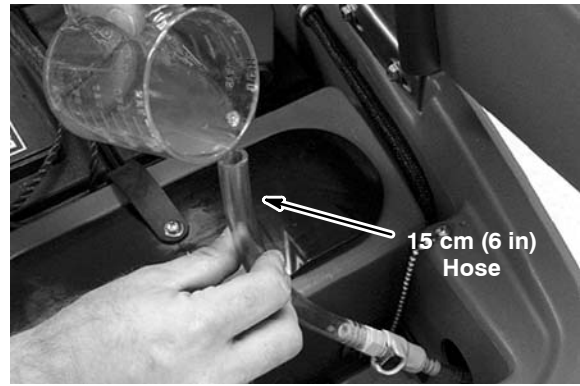

FIG. 61
3. Route the supply hose back up to the FaST-PAK compartment. Connect the 15 cm (6.0 in) hose (purchased part) to the valve coupling and pour RV anti-freeze into the hose until full (Figure 61). Squeeze the supply hose several times if the anti-freeze does not flow.